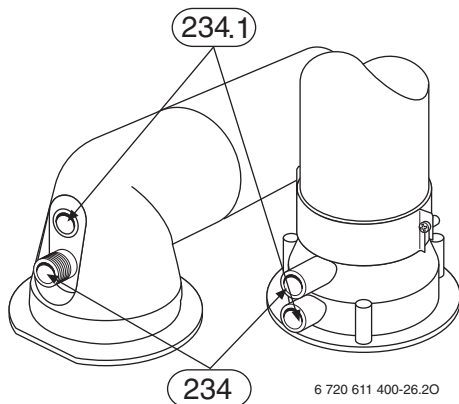

Fig. 48
- ▶ Remove sealing plug from combustion air testing point (234.1, fig. 48).
- ▶ Remove sealing plug from flue gas testing point (234, Fig. 48).